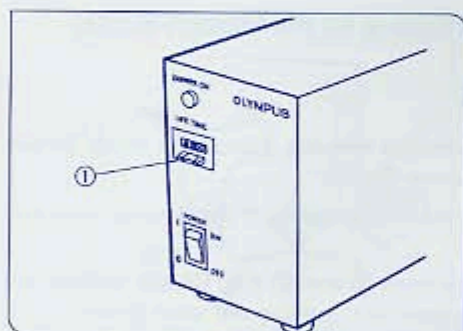
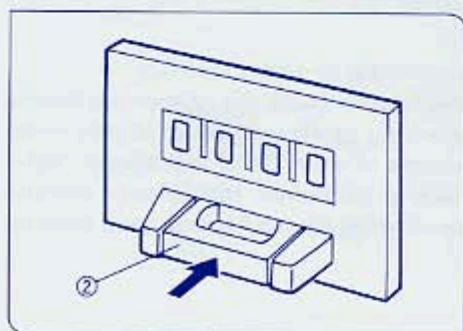

Fig. 15
Fig. 16
To reset the burner life time counter to "000.0", press the center portion ② (Fig. 16) of the reset button ① (Fig. 15) on the power supply unit's front panel.